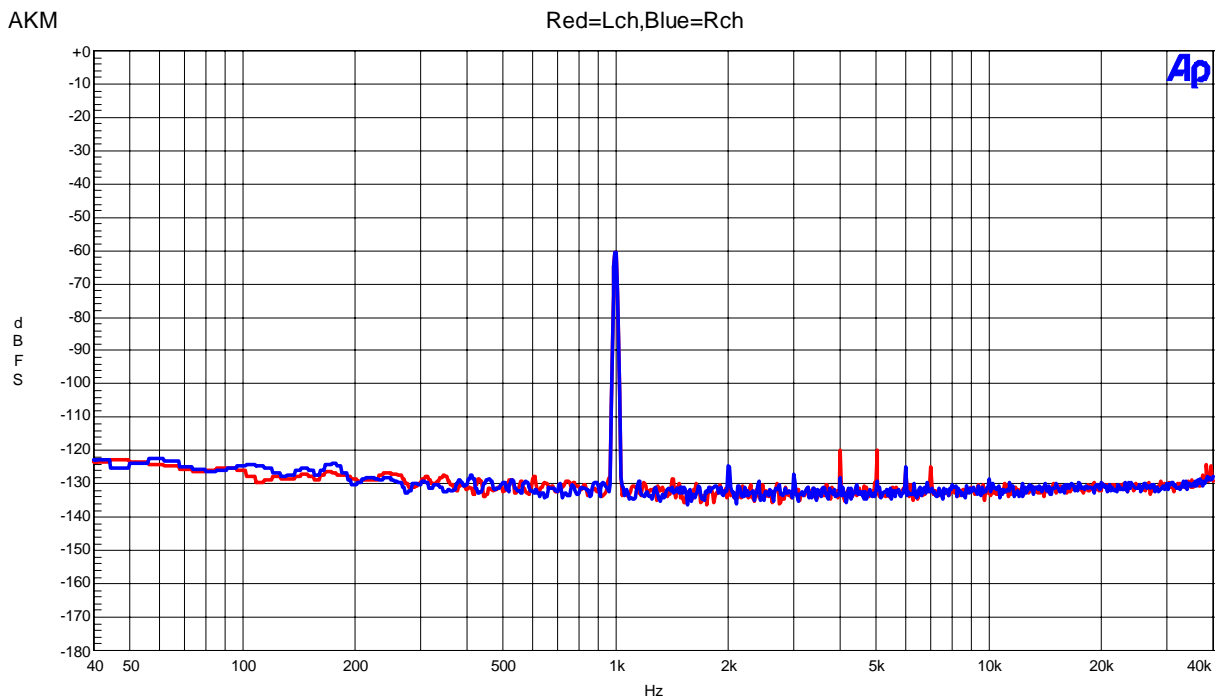

Figure 17. FFT(Input Frequency=1kHz,Input Level=-60dBFS)
- Figure 17. FFT (noise floor)